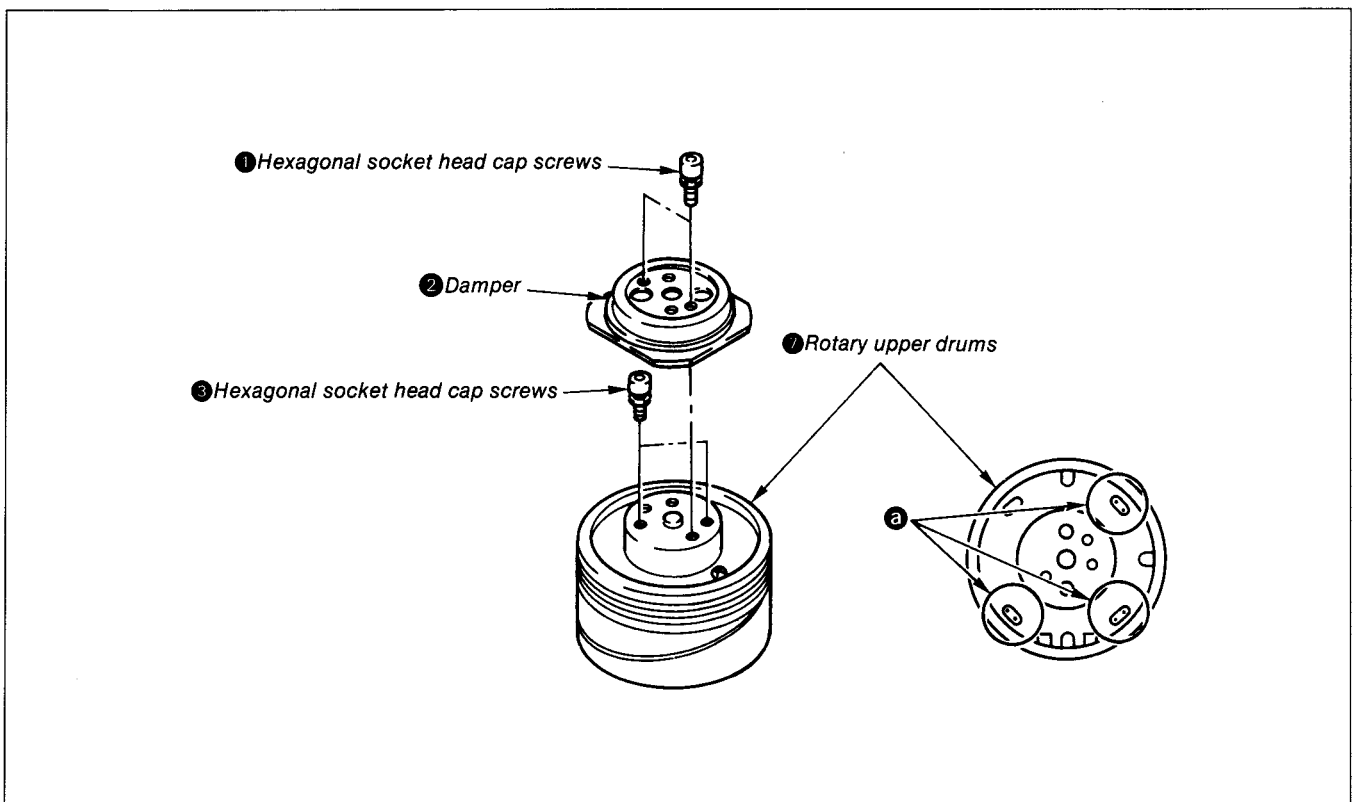

Fig. 8-39.
- 1) Remove two hexagonal socket head cap screws ① and damper ②.
- 3) Remove two hexagonal socket head cap screws ③. (See Fig. 8-39)